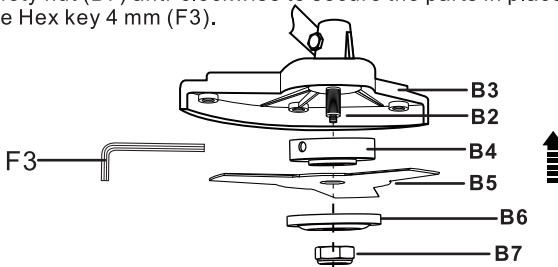

Fig. 5
- Insert the Hex key 4 mm (F3) into the hole to lock the rotation of the backing flange (B4).
- Secure the blade (B5) with the safety nut (B7) removed earlier. Using the multi-tool I (F1) tighten the safety nut (B7) anti-clockwise to secure the parts in place. (See Fig. 5)
- Remove the Hex key 4 mm (F3).